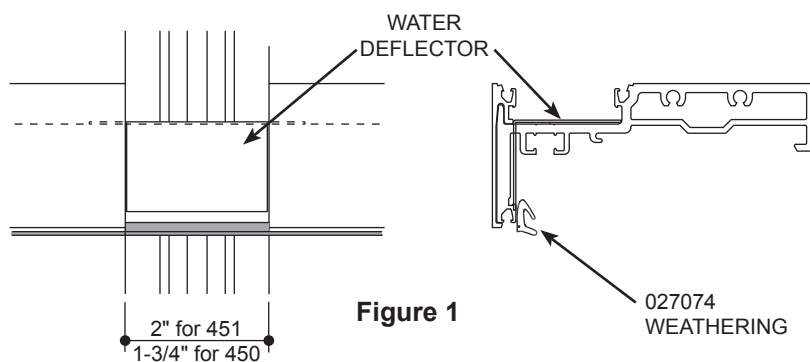

Figure 1
STEP 3: At all intermediate horizontal water deflectors, cut the dart and back leg off of weathering, **027074** (**Figure 1**). This will create a weep slot after the horizontal cover is installed.